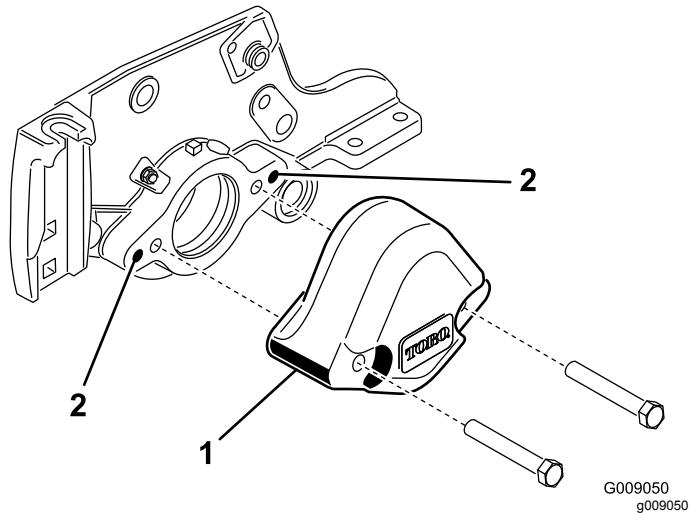

Figure 5
4. Using a 3/8-16 tap, remove the paint in the outer mounting holes in the side-plate (Figure 5).